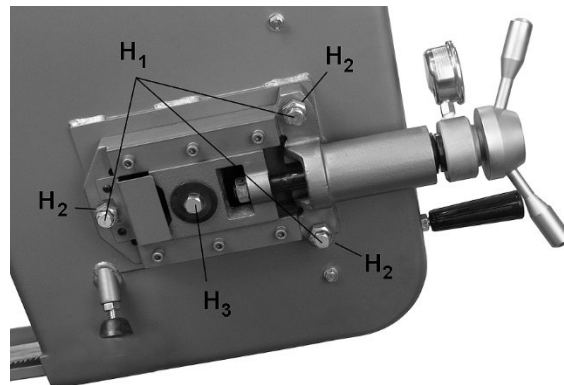

Figure 8-3
4. Loosen center locking screws (H₁, Figure 8-3) in all three hex adjustment screws (H₂).